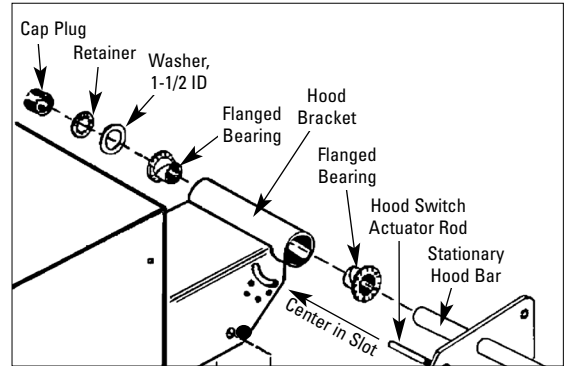

Figure 2 - Hood Assembly Installation
8. Slide one flanged bearing onto the stationary hood bar; flange to cam (figure 2).
11. Slide the other flanged bearing into position followed by the washer, retainer and cap plug (figure 2).